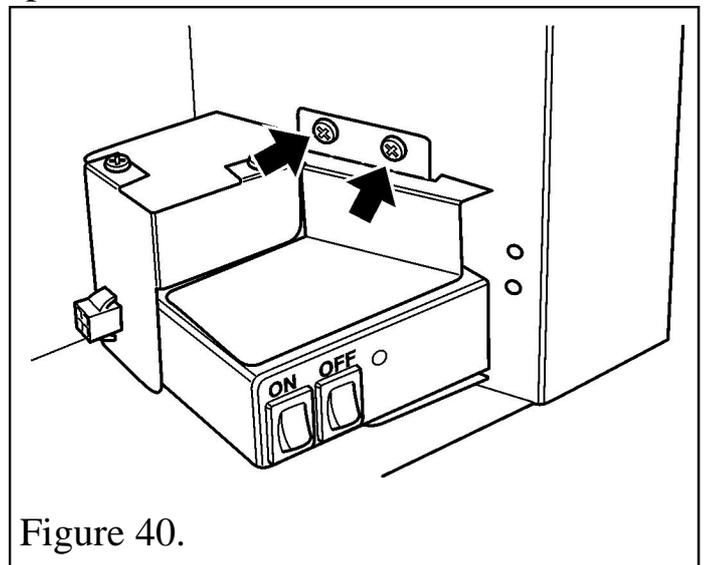

Figure 40.
2. Detach the control unit from the hotbox by removing two screws (See figure 40).
3. Detach the fan wiring loom connection. (See figure 40).